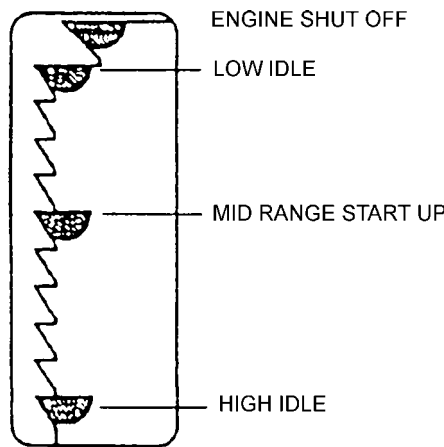

Fig. 4.16. Engine Speed and Shut Down Control Lever
4. Move the engine speed control lever to idle speed position (Fig. 4.16).
2. Shift the engine speed control lever to OFF position (Fig. 4.16).